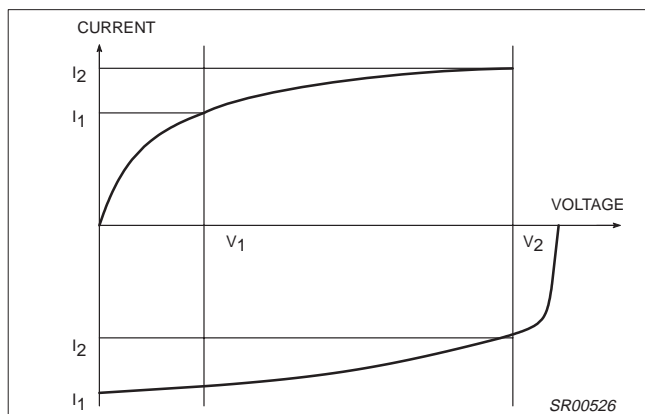

Figure 3. Relative Output Current Variation
- The relative output current variation is defined thus:  $\frac{\Delta I_{OUT}}{I_{OUT}} = 2 \cdot \frac{(I_2 - I_1)}{|(I_2 + I_1)|}$ ; with  $V_1 = 0.3V$ ,  $V_2 = V_{CCCP} - 0.3V$  (see Figure 3).